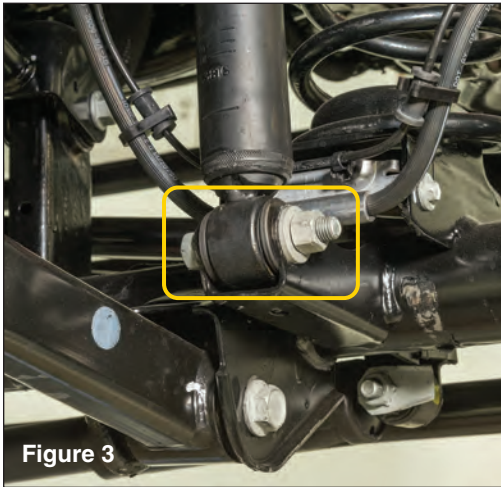

Figure 3
*Disconnect the bottom end of the front shocks using an 18mm socket and open end wrench. (see FIG 3)*